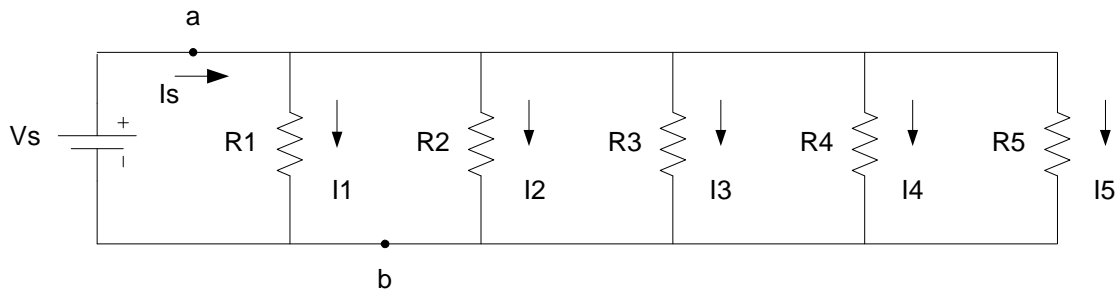

Figure 3.6: Parallel circuit.
1. Construct on the protoboard the parallel circuit shown in Figure 3.6 using a source voltage of $V_s=10V$ (set the CC limit to 125mA) and the following resistors:
- Calculate the power dissipated by the resistor R_1 of the parallel circuit of Figure 3.6.